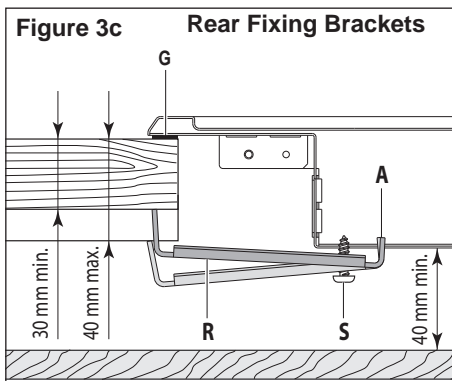

Figure 3c Rear Fixing Brackets
- Fasten the brackets “F” and “R” to the appropriate socket holes, without tightening the screws “S” for the moment. Make sure that the tabs are mounted correctly, as shown (figs. 3c, 3d). Rotate the tabs so that the cooktop can be put into the cutout.
- Put the brackets “F” and “R” into place; tooth “A” of the brackets should go into the hole (figs. 3c, 3d).